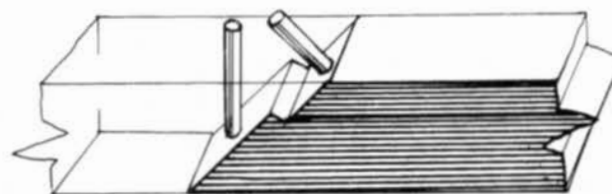
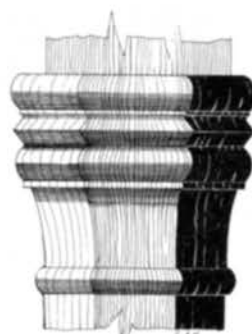
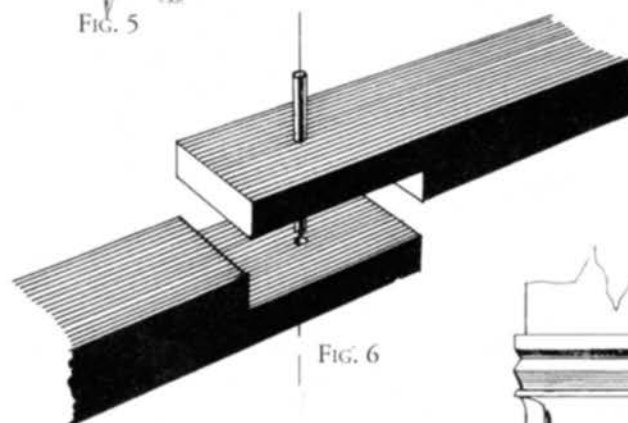
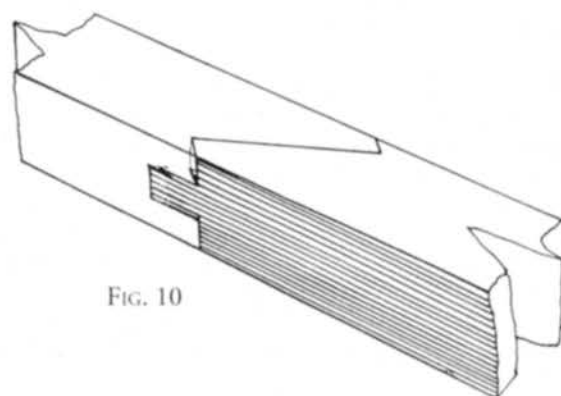

FIG. 4
FIG. 5
FIG. 6
FIG. 10
Dated by tree-rings to the range 1181-1216, one arcade plate has an original scarf (Fig. 4) tabled with two pegs as shown and a 45-degree splay.
CREPPING HALL, Wakes Colne, Essex (1). This aisled hall was described thus by Morant: "In Edward the Confessor's reign [1042-1066], it belonged to Alouard, and others: but, at the time of the general survey, to Richard Fitz-Gilbert, Lord of Clare." The oldest part of the house has one principal post. Since this shaft (including a wooden plinth) is octagonal between the base and the capital, the astragal has an octagonal plain roll beneath the curved-out bell; the top is two half-round rolls flanking one acute fillet (Fig. 5) with no abacus surmounting. These moldings, a late Anglo-Saxon style, are used vertically in Fyfield Hall (Fig. 1); other examples are in Winchester Cathedral, ca. 1170-1190. Crepping Hall also has two arcade plates with their "scarfs" halved and pegged, as in Fig. 6, an example actually drawn from Lampett's Farm, Fyfield.
HARLOWBURY HALL, Harlow, Essex. Between 1135 and 1180 this manor was held by the de Harlow family, after which it was taken in hand by Abbot Samson. The roof has passing braces and both open- and secret-notched laps for soulaces, all with refined angles of entry. The house has one carved capital which has been cut away and plastered over; some of the carving can be seen in Fig. 9. The two arcade plates have different scarfs. On the North are diagonal joints with tenons into splinted ends (Fig. 10) while on the South there are oblique butts between diagonal ledges with two keys (Fig. 11 next page).
Among the scarfs we see some developments. The joint from Knights Templar, Temple Balsall (Fig. 4) shows the development of a table. At Tiptoft's Hall the earlier service wing had a series of changes from ca. 1181 to ca. 1348—about 168 years. Ippollits Hall shows very long splayed and tabled joints (Fig. 15) with under-squinted butts. The complete scarf (Fig. 20), adding a transverse key and pegged tongues, had a long use from Place House (ca. 1295), on. The scarf in Crepping Hall (Fig. 6) is a halved joint and pegged; the same was used in the Barley Barn and also at Lampett's Farm, Fyfield. The carpenters there apparently did not want a better joint; the design did not need it. The joint in the top-plate at Fyfield Hall (Fig. 3) is a scarf, but it doesn't fit into any developmental system. The two scarfs in Harlowbury Hall (Figs. 10 and 11) are interesting, but they are not good, only competent. And the south top-plate has its scarf upside down.